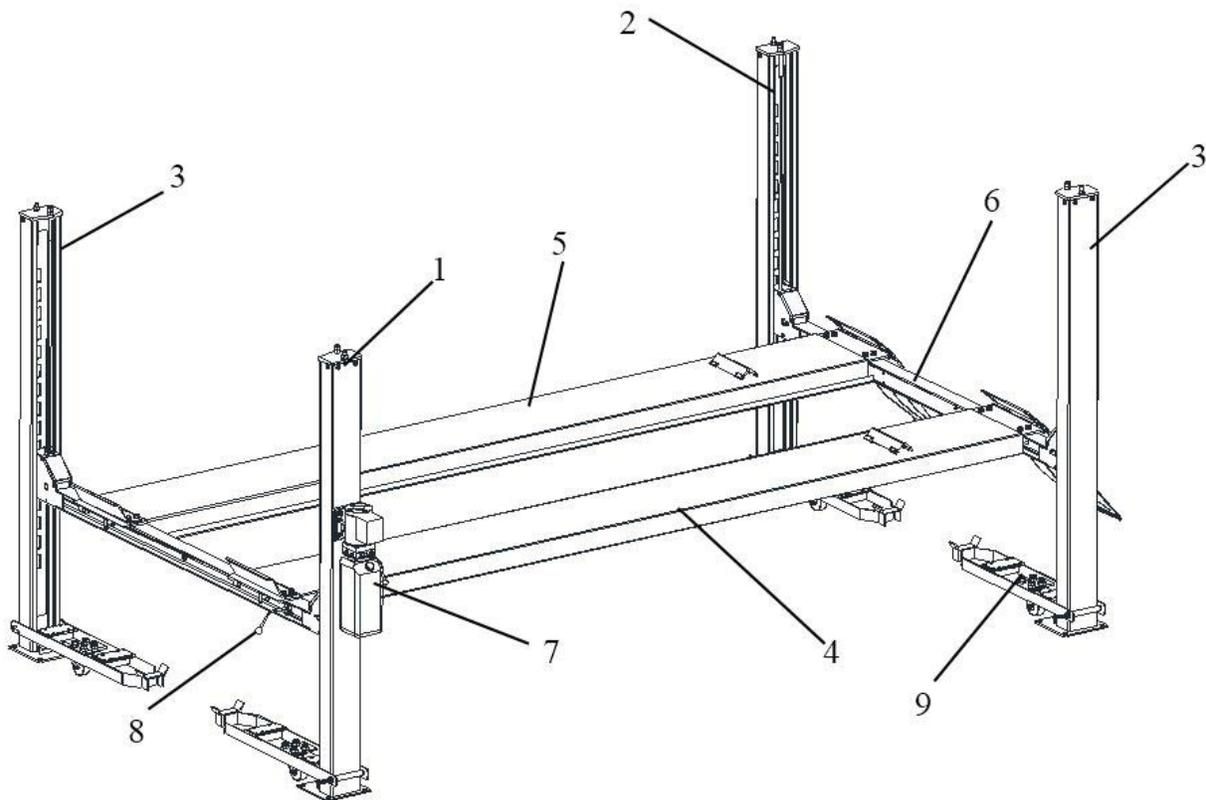

Figure 2 – Lift
This chapter describes the lift's principal elements, allowing the user to be familiar with the machine. As shown in figure 2, the lift is composed of four columns: N.1 power-side column (1), N.3 off-side columns (2) and (3), two platforms: the power-side platform (4) and the off-side platform (5), and two transverse beams (6), anchored to the ground by means of the column base plates.